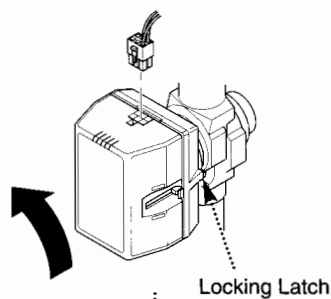
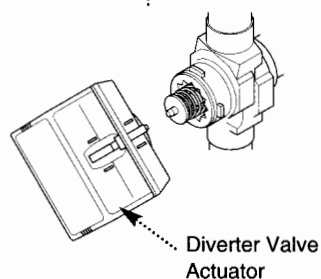

Fig. 65
Fig. 66
2. Depress the locking latch whilst rotating the head anticlockwise through 45° (Fig. 65) and pull forward (Fig. 66).
1. Remove the diverter valve actuator (Figs 65 & 66).